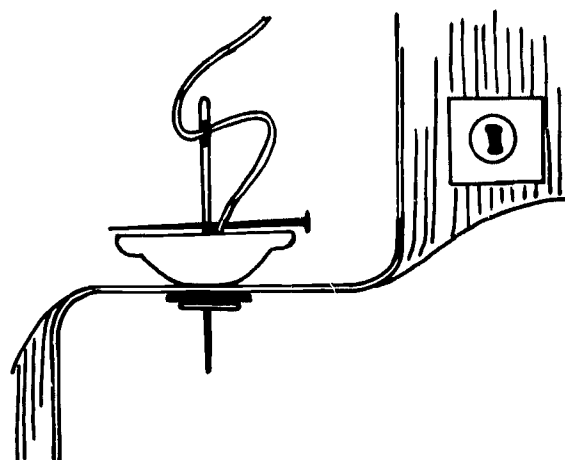

Figure 97.
4. Place the fabric or small button on the inside of the garment under the button and sew through the button, garment, and stay (see Figure 97).